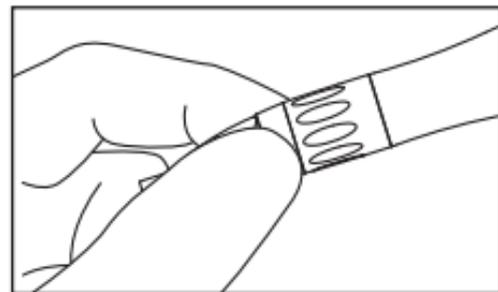

Fig. 7
- 4 After the handpiece rotation has completely stopped, touch the tip and bur lock ring of the handpiece to confirm they are not heating abnormally (Fig. 7).